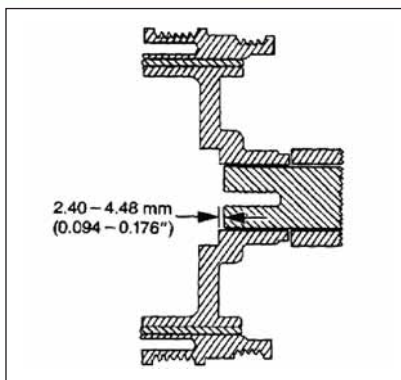

Figure 8 The nose of the crankshaft should be recessed .094"-.176"
9) Remove the used crankshaft balancer bolt. Important: The nose of the crankshaft should be recessed .094"-.176" (2.4 - 4.48 mm) into the balancer bore as shown in **Figure 8** (page 13).